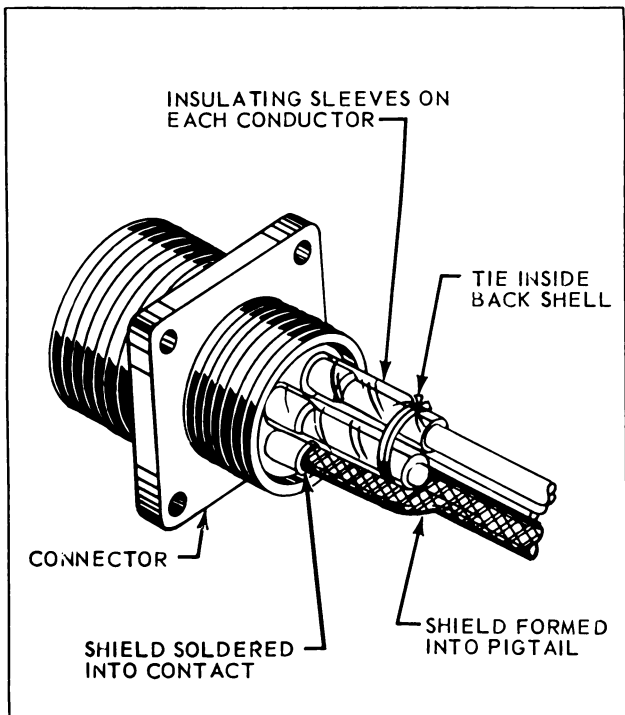
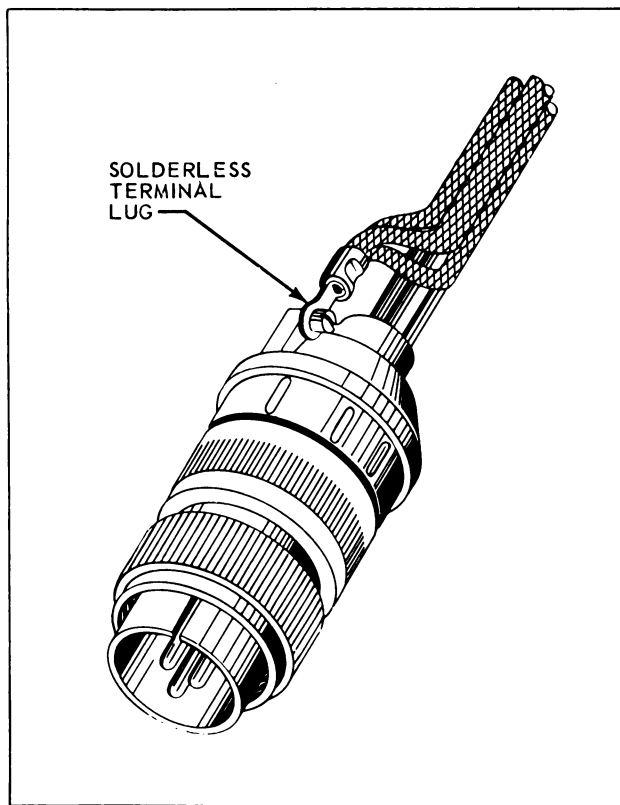
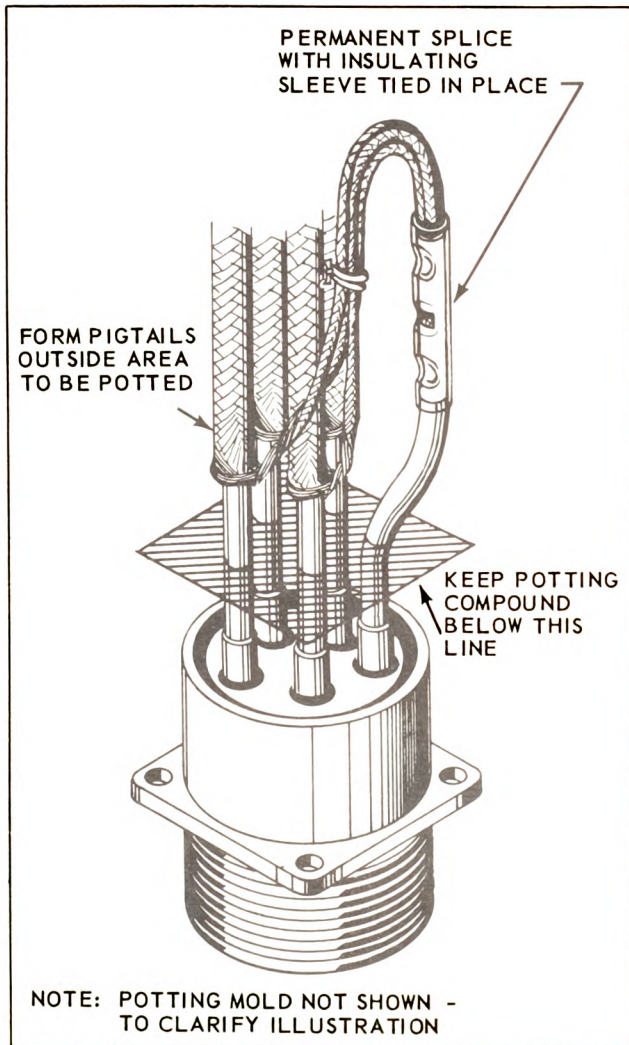

Figure 3-71. Terminating Shielded Wire at "AN" Connector
Figure 3-72. Grounding Shields Outside Connector
Figure 3-73. Terminating Shielded Wires at Potted Connector
Terminate single shielded wires as described in Section II Paragraph 2-58. For connection to Class A, B, C or K connectors, shield must end inside back shell as shown in Figure 3-71. For connection to Class E or potted connectors shield must end outside seal. Crimp pigtail into terminal lug and ground to screw as shown in Figure 3-72, or use permanent splice to join pigtail to short length of AN wire which is then terminated inside connector to contact in regular manner, as shown in Figure 3-73.
f. Solder single wire to proper contact in connector as shown in Figure 3-73.
c. Attach terminal lug under screw, as shown in Figure 3-72.